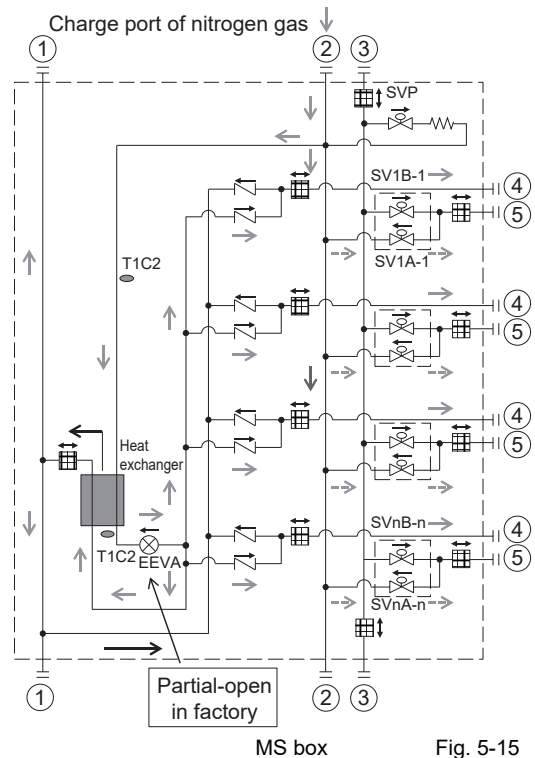

Fig. 5-15
a) Normal charge from port ② while brazing port ④ and strong charge (> 20 kPa) from port ② while brazing port ⑤ as Fig.5-15.
b) Normal charge (≤ 20 kPa) from port ② while brazing port ① and normal charge from corresponding outdoor unit stop valve while brazing port ② and port ③ as Fig.5-15.